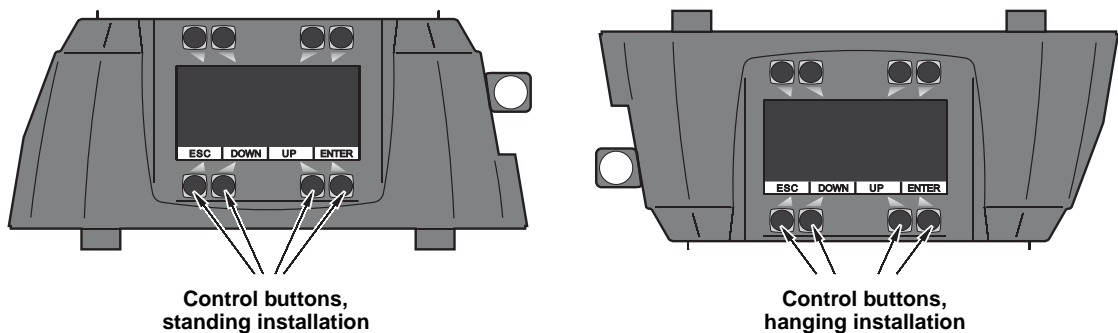

Figure 3: Control buttons
- See Figure 3. There are two sets of control buttons. If the fixture is rotated through 180°, press once on any control button in the set that are now below the display. The display will rotate through 180° so that it is correctly orientated.